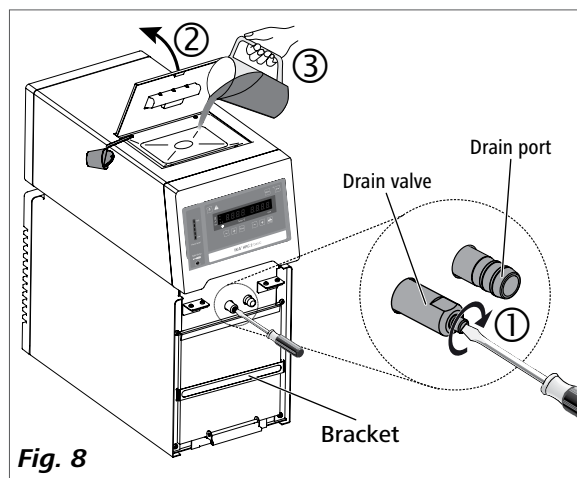

Fig. 8
- Check and make sure that the drain valve is closed (rotate clockwise to the stop position, see Fig. 8).